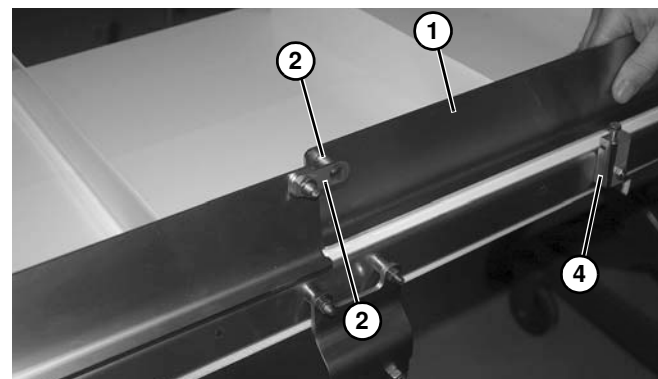

Figure 42
5. For conveyors over 2998 mm (118") long, connect guides (Figure 42, item 1) by installing connector plate(s) (Figure 42, item 2) onto studs (Figure 42, item 3) on guiding. Secure onto guide brackets (Figure 42, item 4).